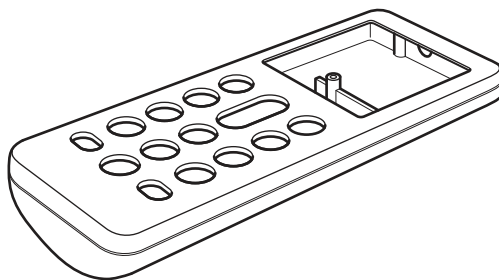

Fig. 7.1
- 7 Fig. 7.1 shows the casing of a television remote control made from moulded plastic.